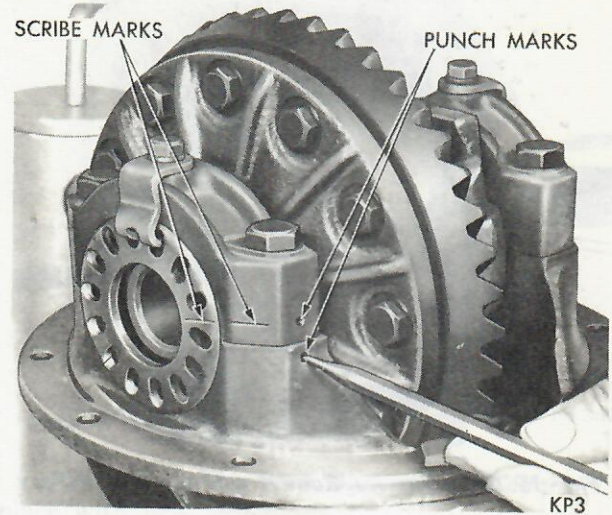

Fig. 17 Marking Bearing Caps and Adjusters
(7) Apply identifying punch marks on differential bearing pedestals of carrier, differential bearing caps and bearing adjusters for reassembly purposes (Fig. 17).
(8) Remove both differential bearing adjuster lock screws and locks.
(9) With a 3/4 inch socket, loosen bearing cap bolts (one on each side) and back off bearing adjusters slightly using spanner wrench Tool C-406A; to remove differential bearing preload. Remove bearing cap bolts, caps and bearing adjusters.
(10) Remove differential and ring gear assembly with bearing cups. Differential bearing cups must be kept with respective bearing cones.
(11) Remove drive pinion and rear bearing assembly from carrier.